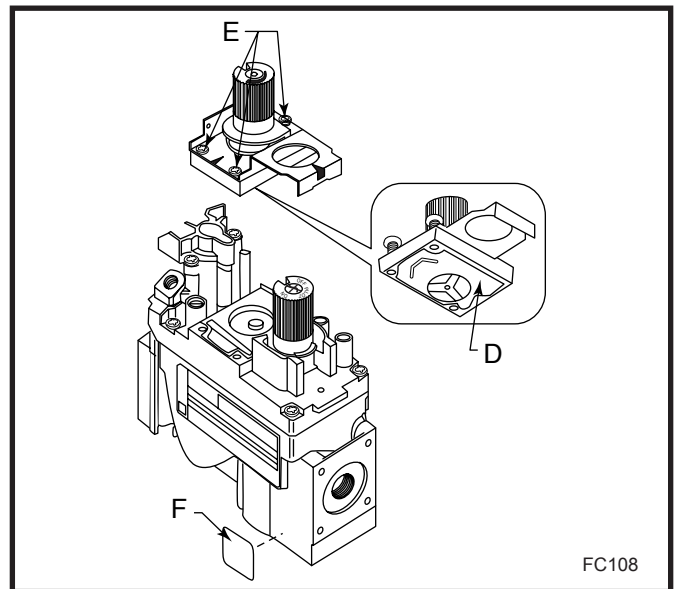

Fig. 51 Replace ignitor.
Tighten the screws securely. (Ref. torque = 25 in/lb) (Fig. 51)
3. Install the enclosed conversion label (F) to the valve body where it can easily be seen. (Fig. 51)